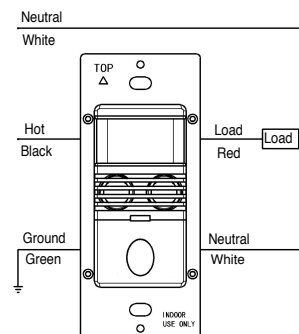

Figure 2
2. Connect lead wires according to wiring diagram (see **Figure 2**.)